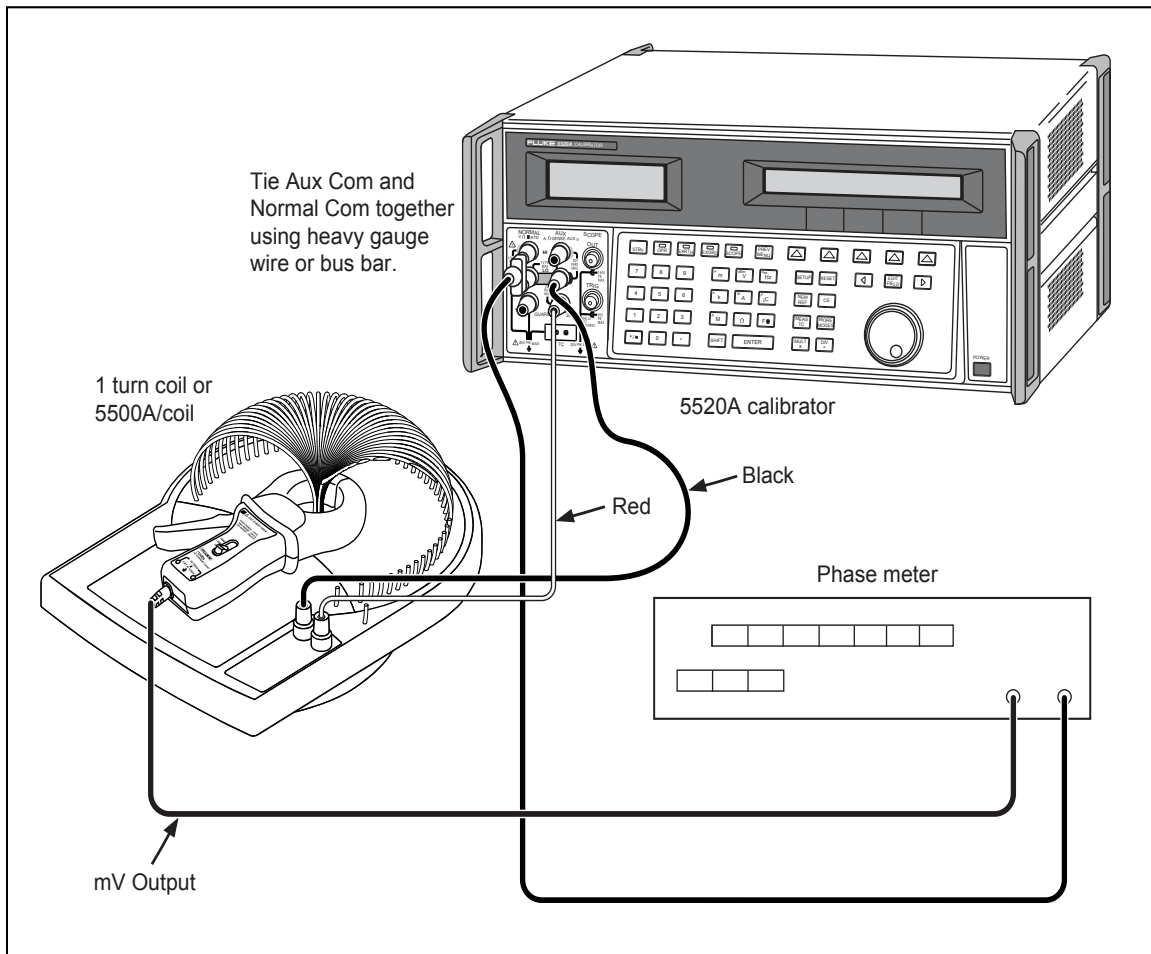

Figure 3. Phase Check Setup
1. Set up the equipment as shown in Figure 3.